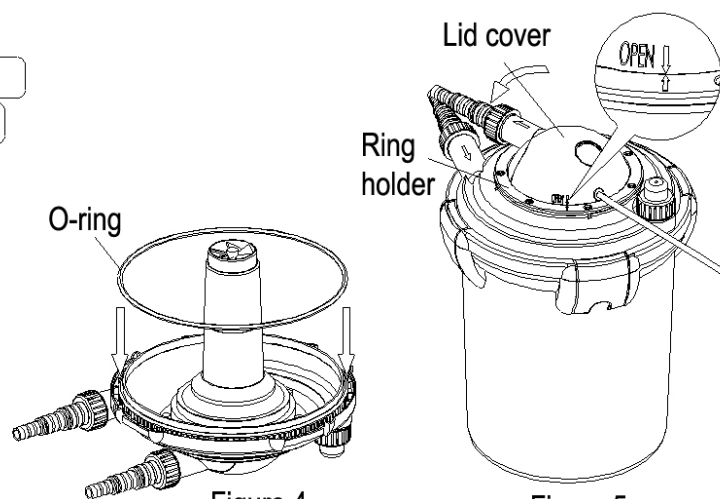

Figure 4
4. When reassembling the device, make sure the O-ring is correctly positioned for a watertight seal (See figure 4). If the seal is out of place or missing there will be significant leakage when filter is operating.